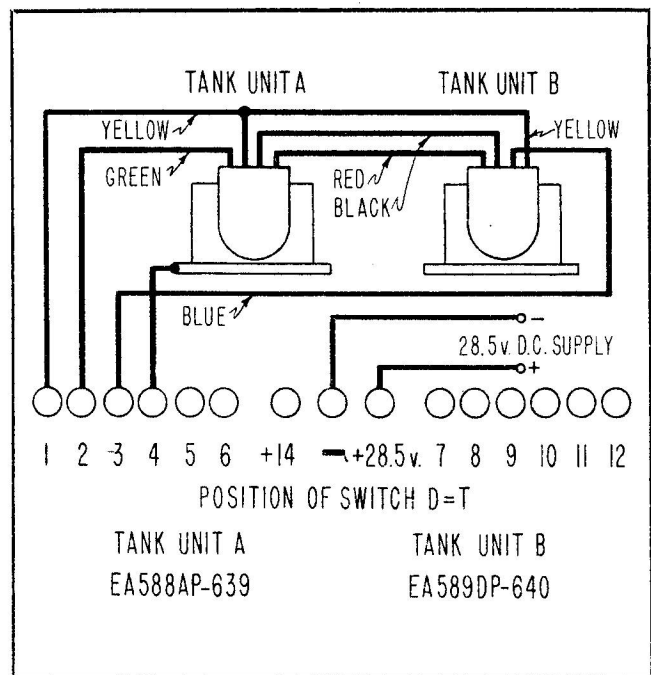

Figure 4-119. Field Tester Wiring Diagram
(3) ADJUSTING STROKE AND SETTING TRANSFER SWITCH ON TANK UNIT EA588AP-639. This is the lower tank unit in a two-step system; the upper unit is EA589DP-640. Connect both units to the field tester as shown in figure 4-119. With screwdriver, turn eccentric (23, figure 4-84) on the transfer switch (17) of tank unit EA588AP-639 to move the lifter (18) as far to the right as possible. Set lower left-hand toggle switch on field tester to "T" position. Adjust stroke of contact arm on EA588AP-639 potentiometer so that indicator pointer on field tester moves